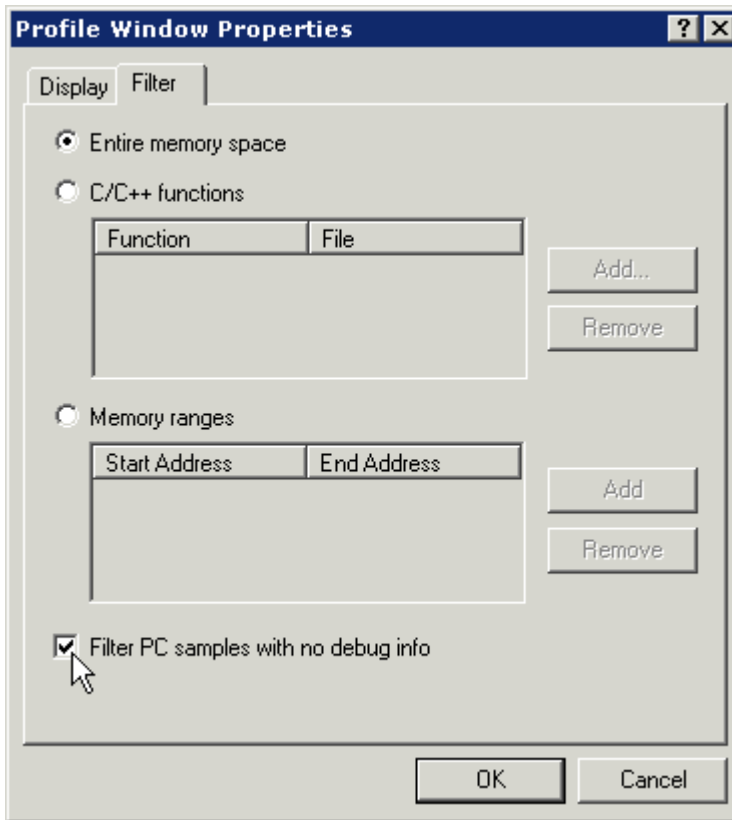

Figure 2-34. Filtering Samples with No Debug Information
3. Right-click in the **Linear Profiling Results** window and choose **Properties** to display the **Profile Window Properties** dialog box, show in Figure 2-34.